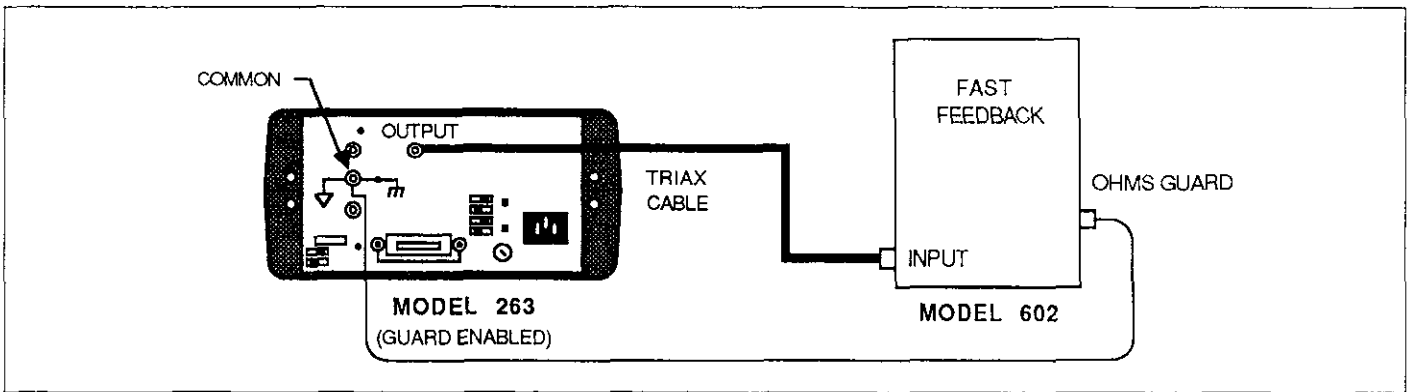

Figure 5-13. Model 602 Ohms Accuracy Checks ( $\geq 1G\Omega$ )
3. Resistance Accuracy Checks — The procedures in this paragraph use precision resistors to check accuracy. Instead, use the Model 263 to source the appropriate resistance. When sourcing  $100M\Omega$  or more to the Model 602, it is recommended that guarding be used. For guarded ohms, enable guard on the Model 263, place the feedback switch of the Model 602 in the FAST position, and connect the instruments as shown in Figure 5-13.